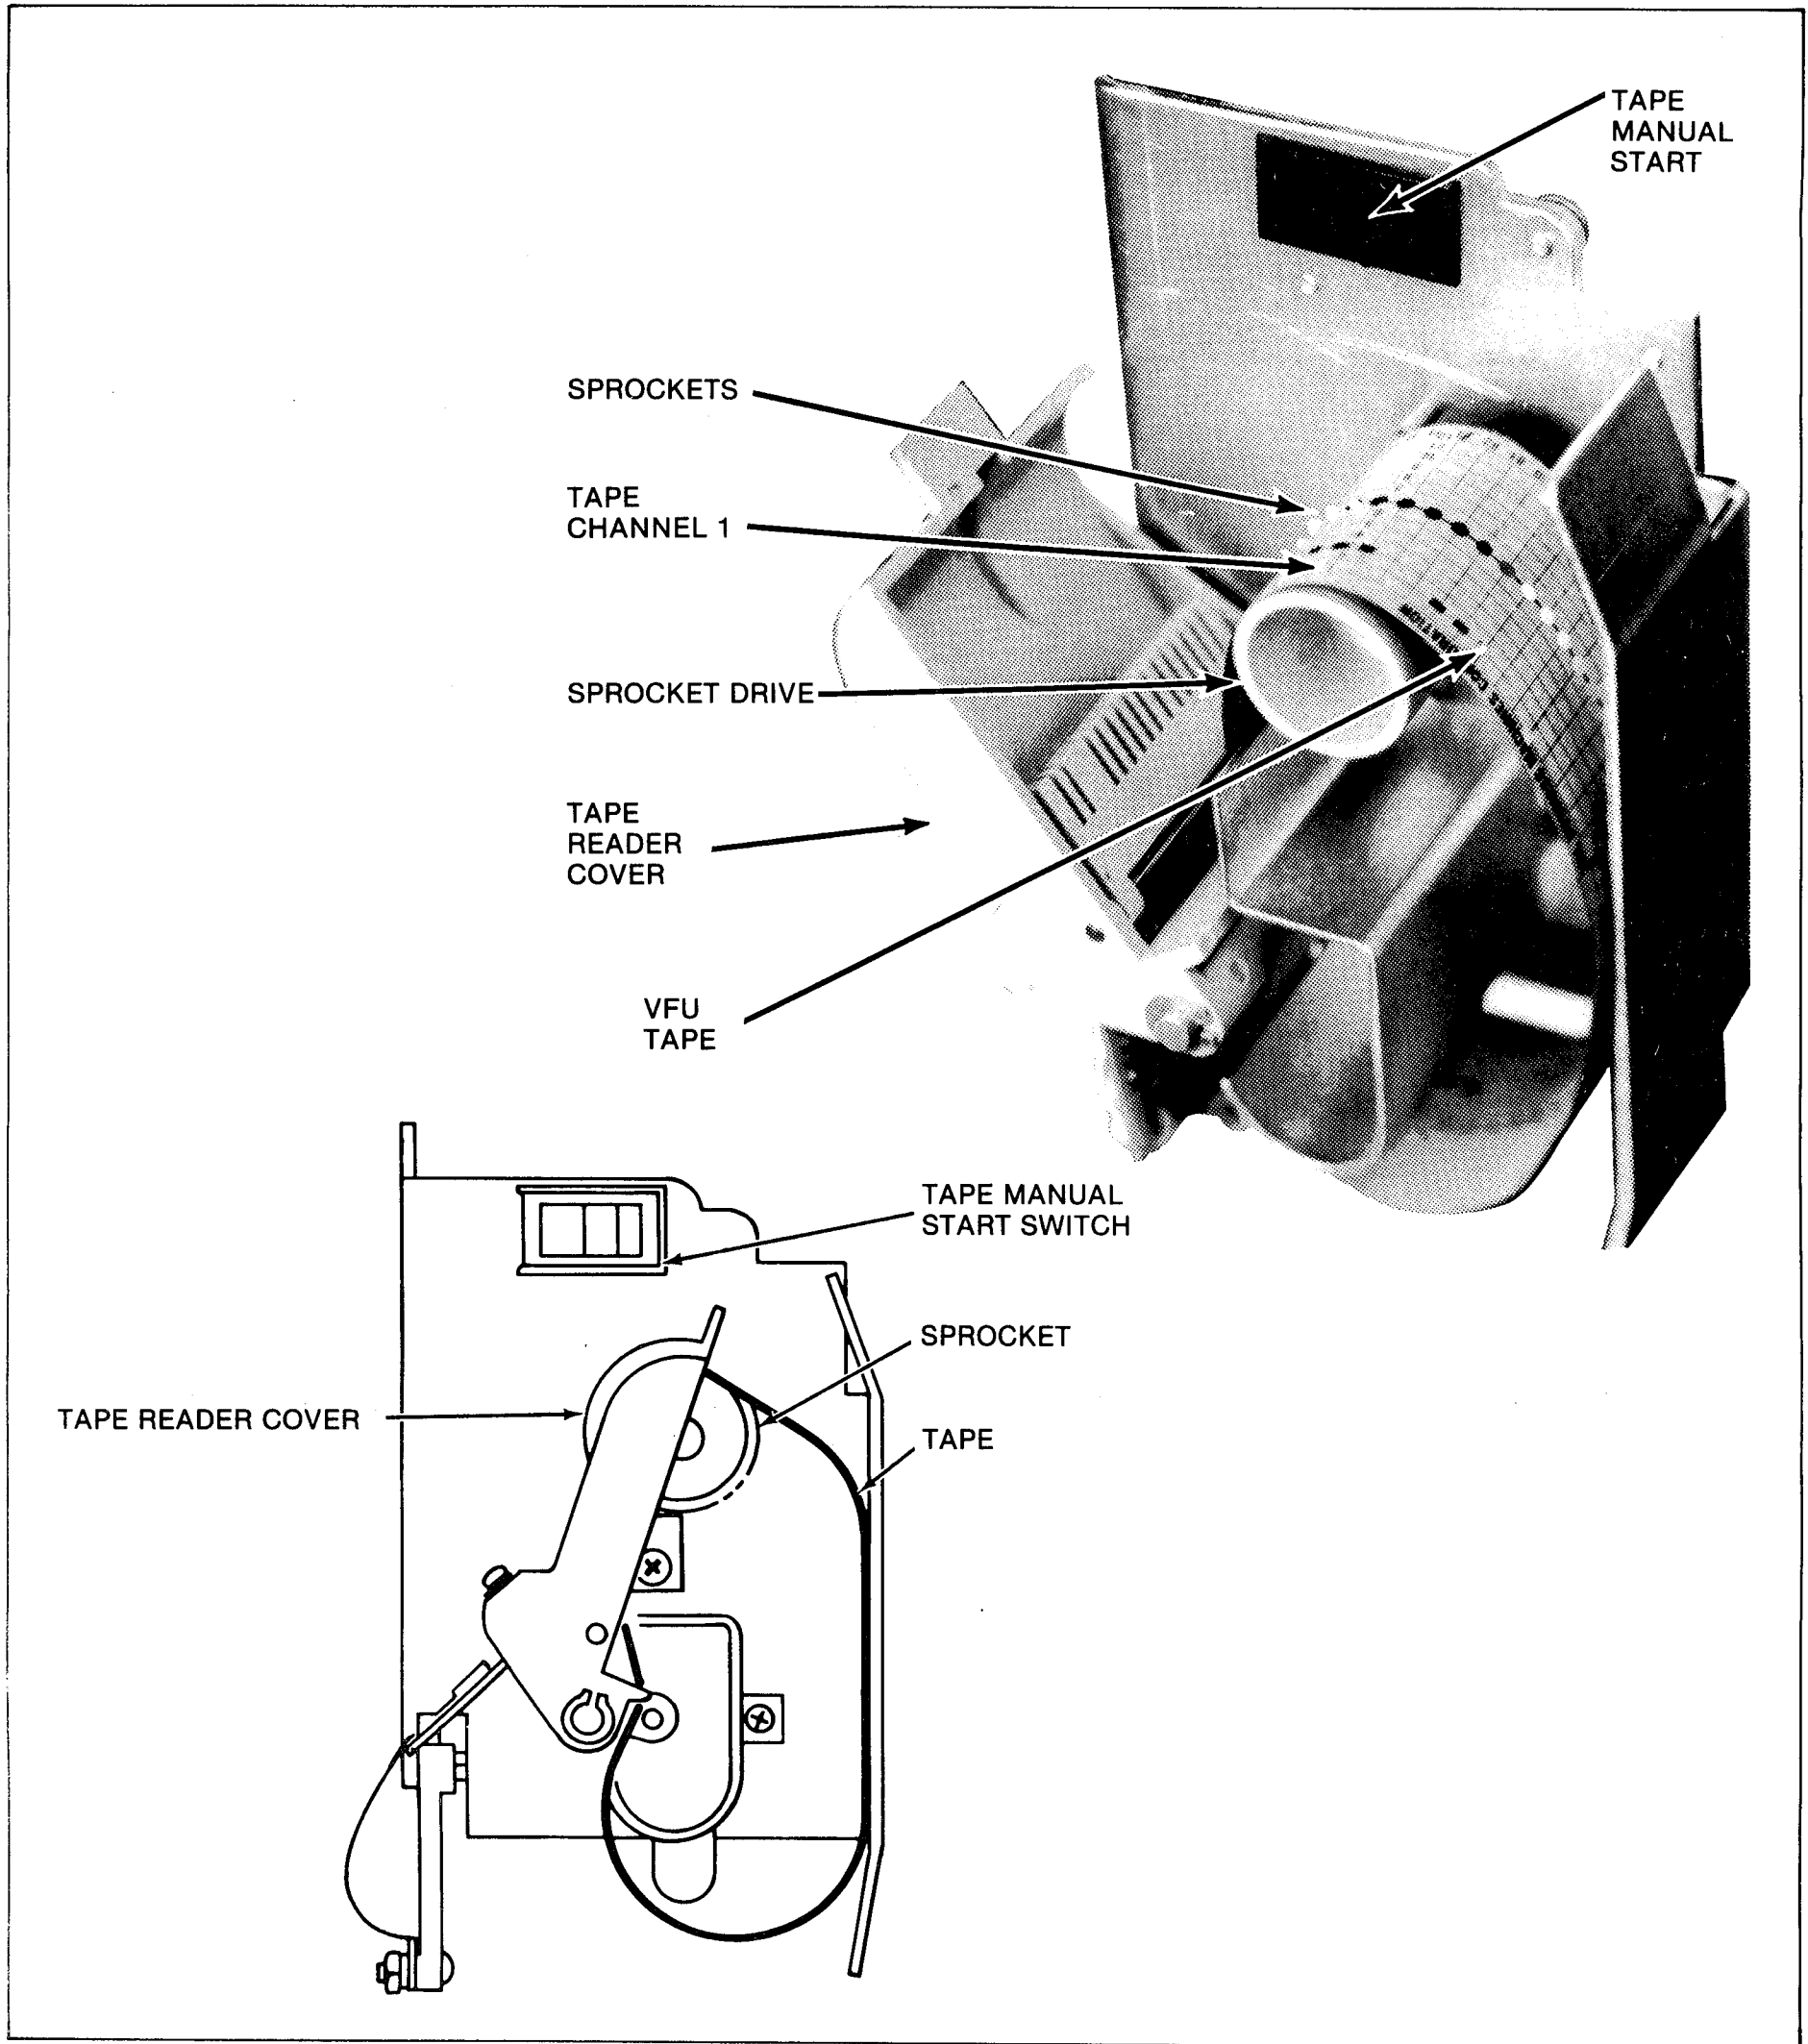

Figure 10. VFU Tape Loading
- Open VFU cover and place the punched tape on the sprocket drive with channel 1 oriented toward the front of the printer (Figure 10.)